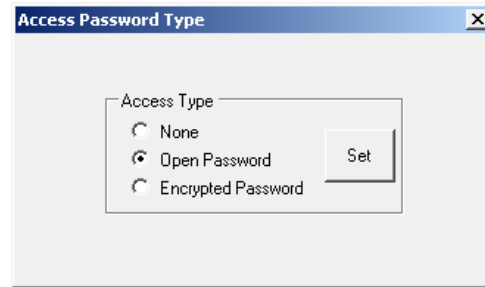

Figure 3-2 Access Password Type Screen
2. Select **Utility/Cybersecurity/Manage Accounts/Set Access Password Type** from the IPSCom tool bar. IPSCom will display the "Access Password Type" screen (Figure 3-2).